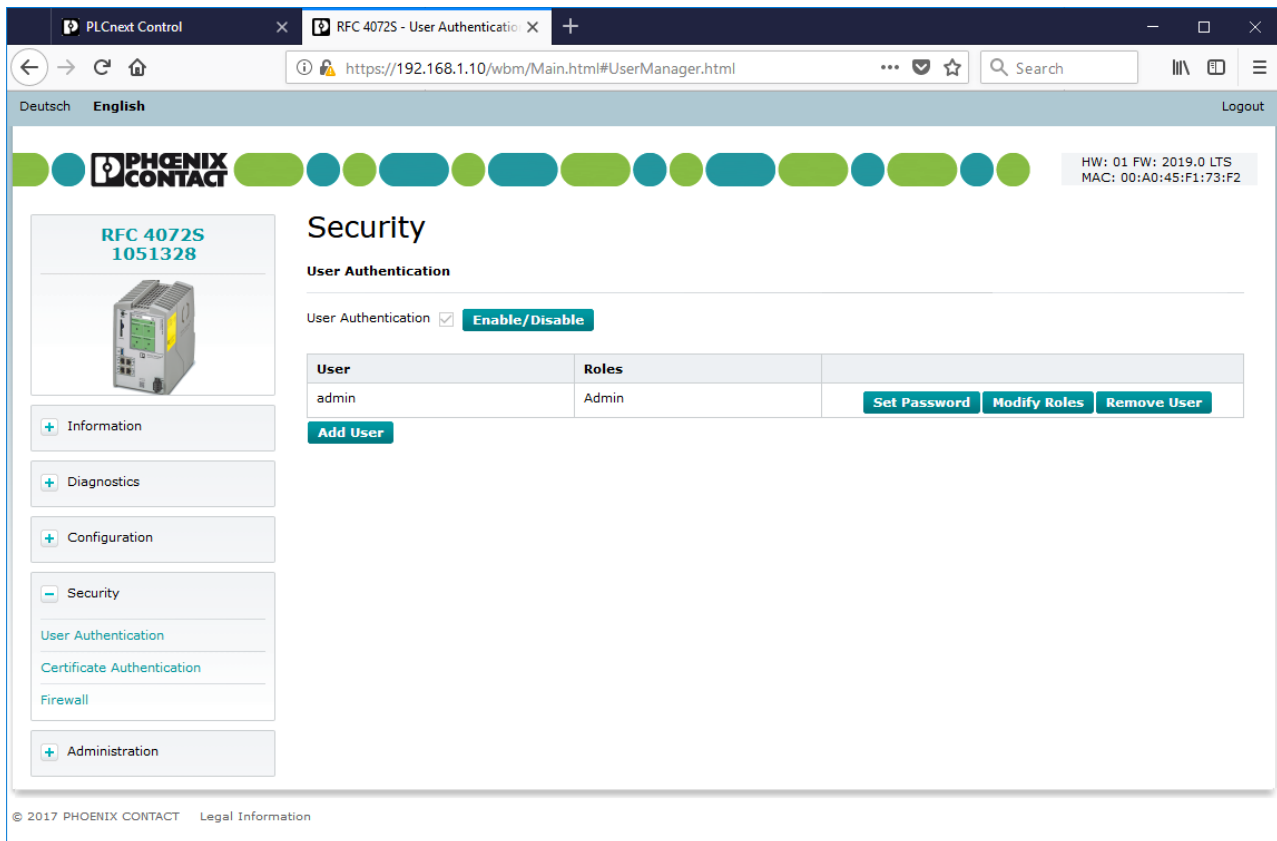

Figure 9-10 WBM: “User Authentication” page
- Click on the “Modify Roles” button in the row of the desired user on the “User Authentication” page (see Figure 9-10 on page 206).